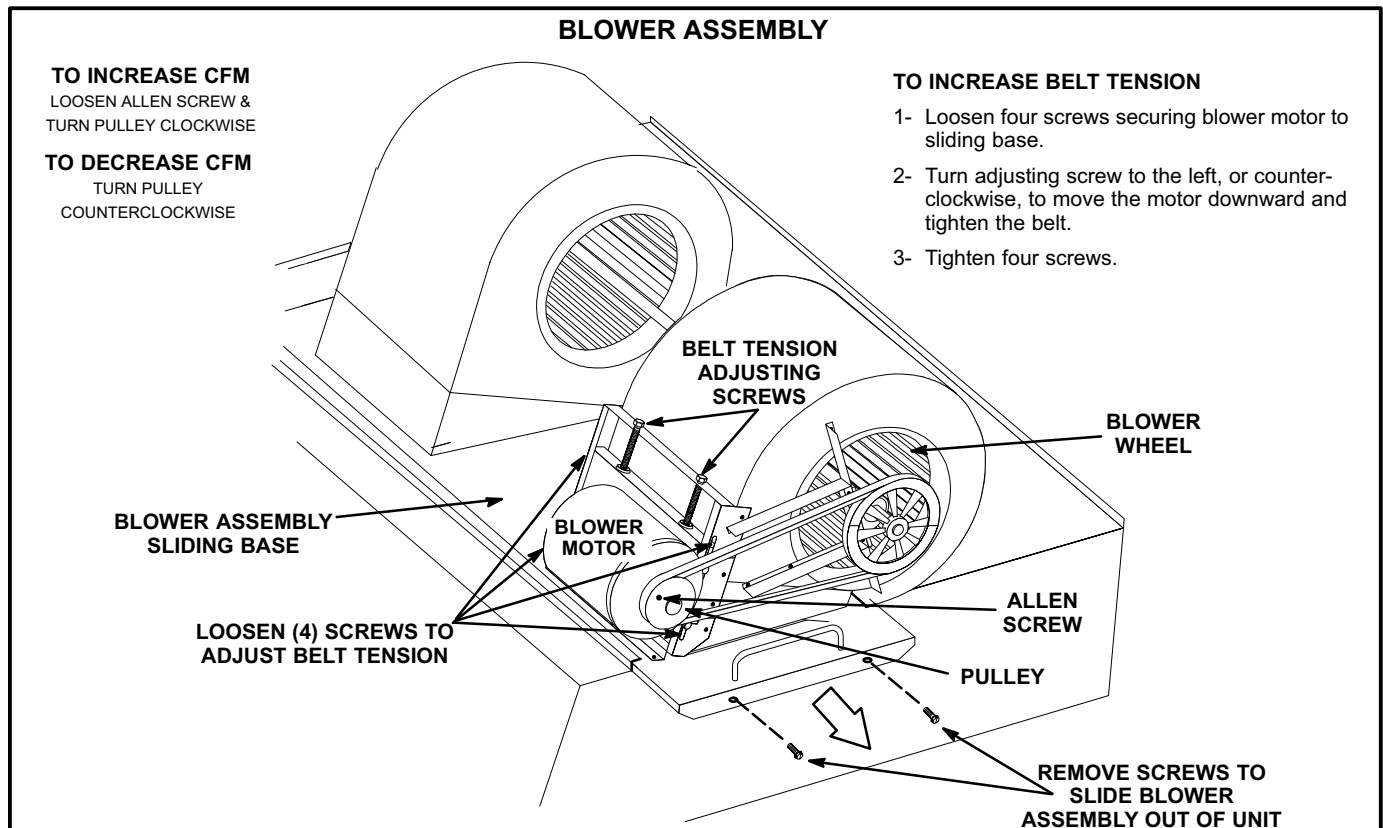

FIGURE 7
The blower assembly is secured to a sliding base which allows the entire assembly to be pulled out of the unit. See figure 7.
- 4- The blower RPM can be adjusted at the motor pulley. Loosen Allen screw and turn adjustable pulley clockwise to increase CFM. Turn counterclockwise to decrease CFM. See figure 7. Tighten Allen screw after adjustment. Do not exceed minimum and maximum number of pulley turns as shown in table 2.
- 1- Loosen four screws securing blower motor to sliding base. See figure 7.